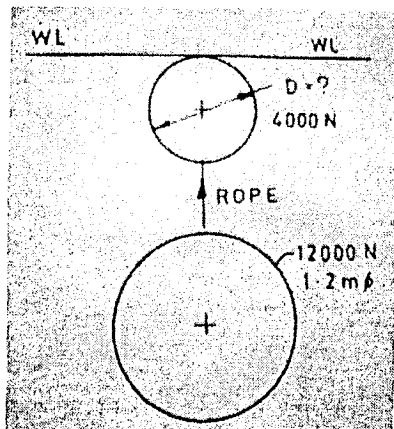

Figure 4
- (b) Two spheres, one heavier and weighing 12000 N and of diameter 1.2 m and the other lighter and weighing 4000 N, are tied with a rope and placed in water. It was found that the spheres floated vertically with the lighter sphere just submerging as shown in figure 4. Determine the diameter of the lighter sphere and the tension in the rope. (4)